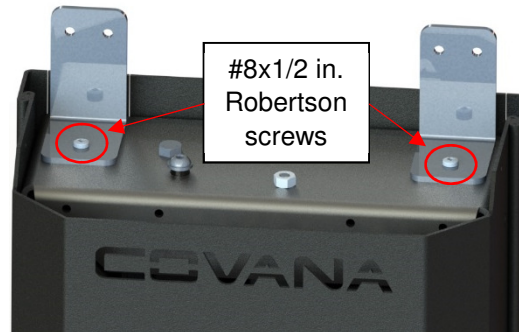

Figure 38
- 13) Remove the posts' support brackets by unscrewing the #8x1/2 in. Robertson screw on each bracket (two support brackets per post) from the posts. (Figure 38)